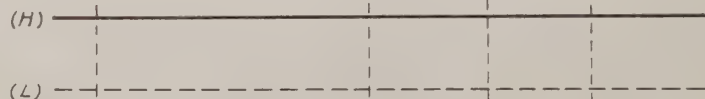

Fig.6-11
6.6 A/B SWEEP GENERATOR (2) (PEF-712)
Figure 6-9 is a detailed block diagram of the A/B SWEEP GENERATOR (2). Figure 6-10 is a schematic diagram illustrating the information necessary for understanding the operation of this circuit. Waveform examples are shown in Figure 6-11.